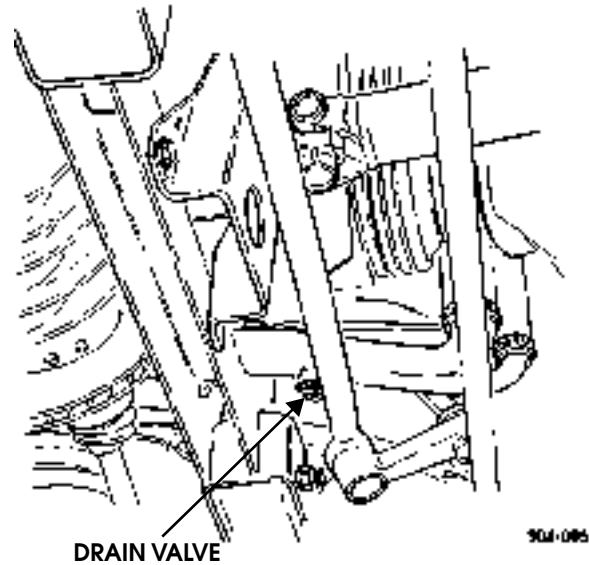

Figure 4-7: Drain Valve
3. Open drain valve and drain system (Figure 4-7).
1. Ensure drain valve is closed and heater control valve is open (Figure 4-7).